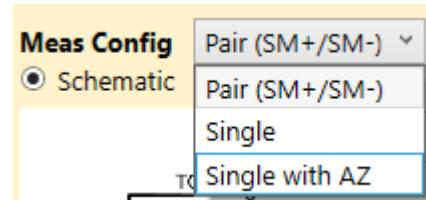

Figure 69. Meas Config Menu
The Meas Config menu (see Figure 69) affects the internal calculations and Graphs only and it allows to select from the following options:
- Pair (SM+/SM-): a pair of measurements i.e., the SM+ AND SM- readings (see Figure 69)